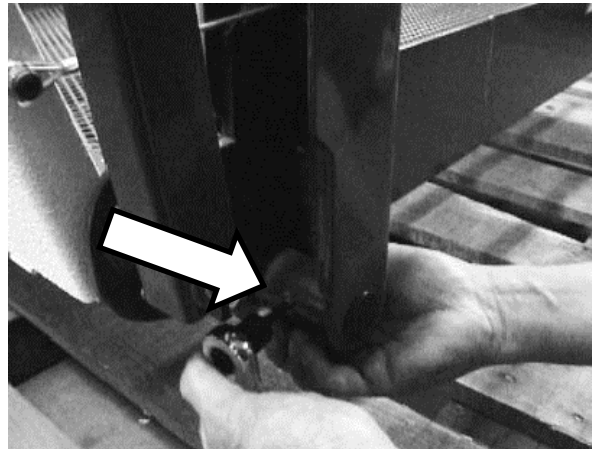

Figure 4. Set Screw 2 under Vertical Arm
3. Refer to **Figure 4**. Locate second set screw under the vertical arm. Remove and retain for re-installation.